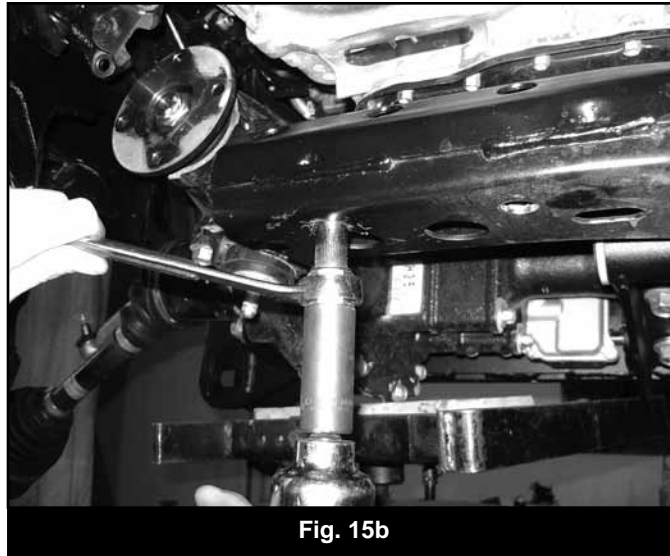

Fig. 15b
26. Mark the center of the rear slots and temporarily remove the rear crossmember to drill 11/16" holes at the marks. A step drill is highly recommended. (Fig 15b)